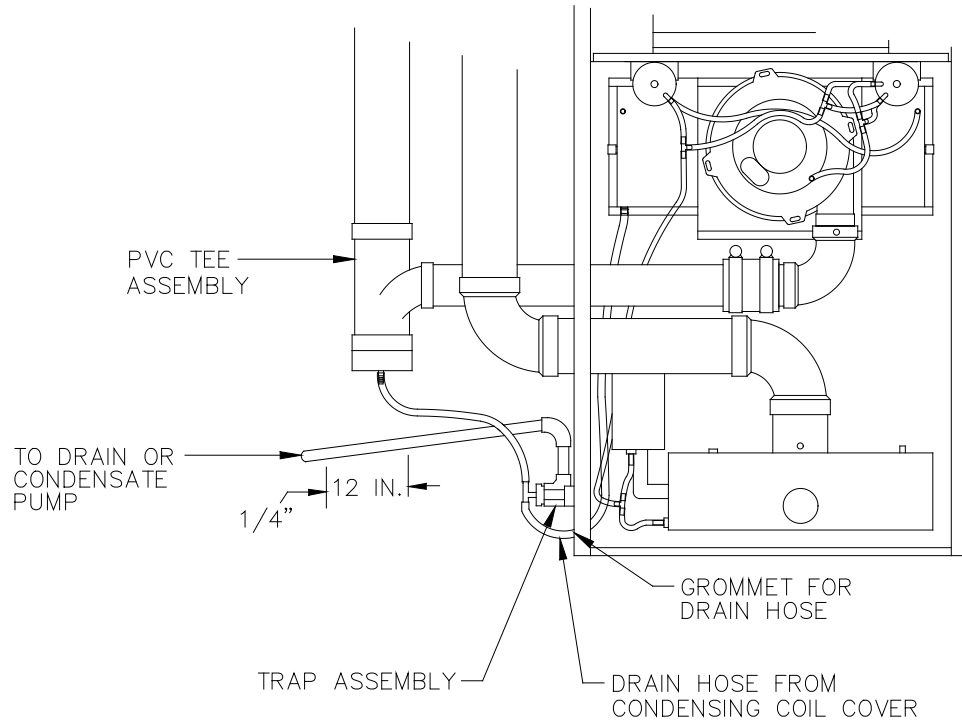

Figure 15. TRAP ASSEMBLY MOUNTED ON CDX3
- Measure the drain hose (11/16" o.d. clear tubing) provided and remove any extra length, making sure that the hose has sufficient length not to kink or otherwise be restricted once installed. Attach the drain hose (11/16" o.d. clear tubing) to the other side of the condensate trap tee. On CHX3/CDX3's, this hose is shipped in the parts package and it will be necessary to attach the other end to the PVC drain tee assembly (see Figure 15). Use the silver clamp(s) provided in the parts package to secure all connections.